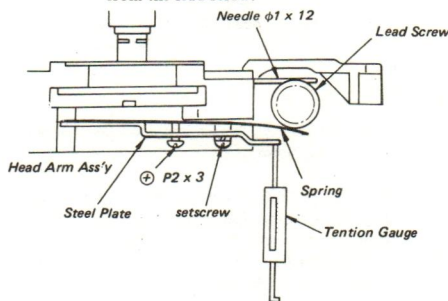

Fig. 5-5 Stepping Motor Load Torque
- Push up the steel plate near the lead screw with a spring balance. (Refer to Fig. 5-5)
- If the spring balance indicates a force of 50 g or less, fasten the setscrew (+P2x3). If it indicates 80 g or more, loosen the setscrew. (Refer to Fig. 5-5)